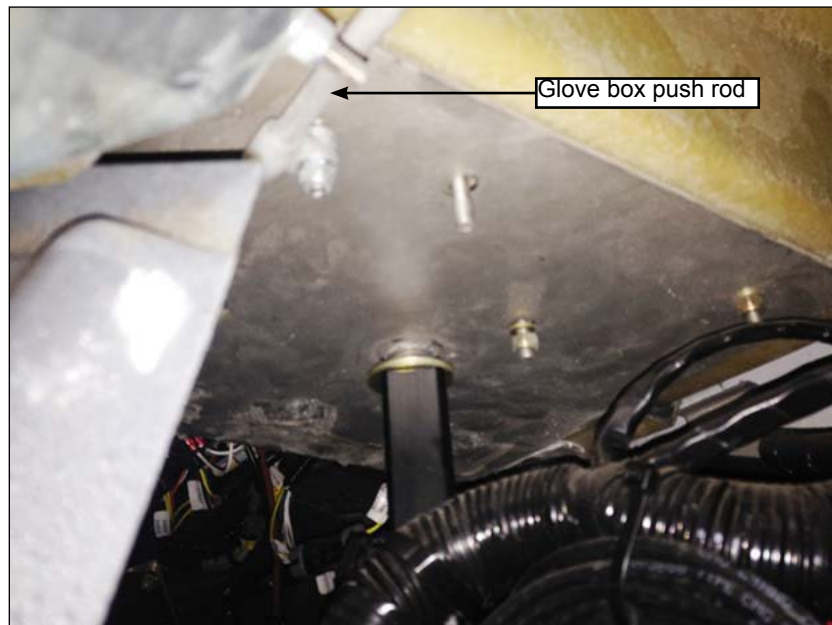

Figure 15 - Remove Nuts and Glove Box Push Rod
- 1.15. Remove the six nuts under the dash that secure the dash to the metal plate. Remove the glove box push rod by pushing it out of the opening. Retain all parts for reinstallation once the repair is complete (see Figure 15).